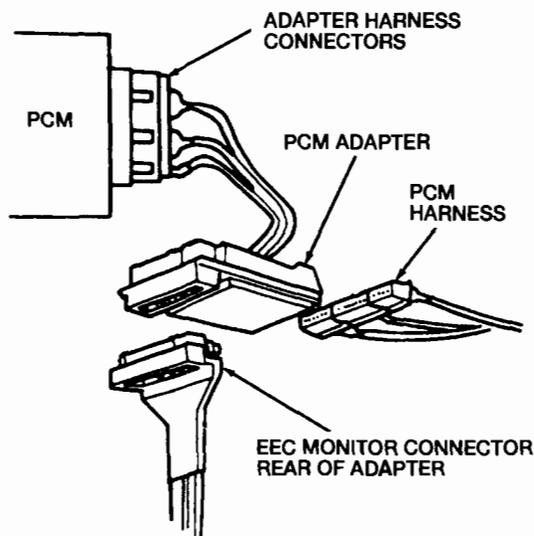

Figure 1.
5. Connect the appropriate PCM adapter harness connectors to the PCM (Figure 1). A listing of the monitor adapters and overlays is in Chart 1.
6. Attach the Monitor connector to the PCM adapter cable and tighten the bolt on the connector with a 10mm socket until snug. Do not over-tighten. Attach the PCM harness to the PCM adapter (Figure 1).